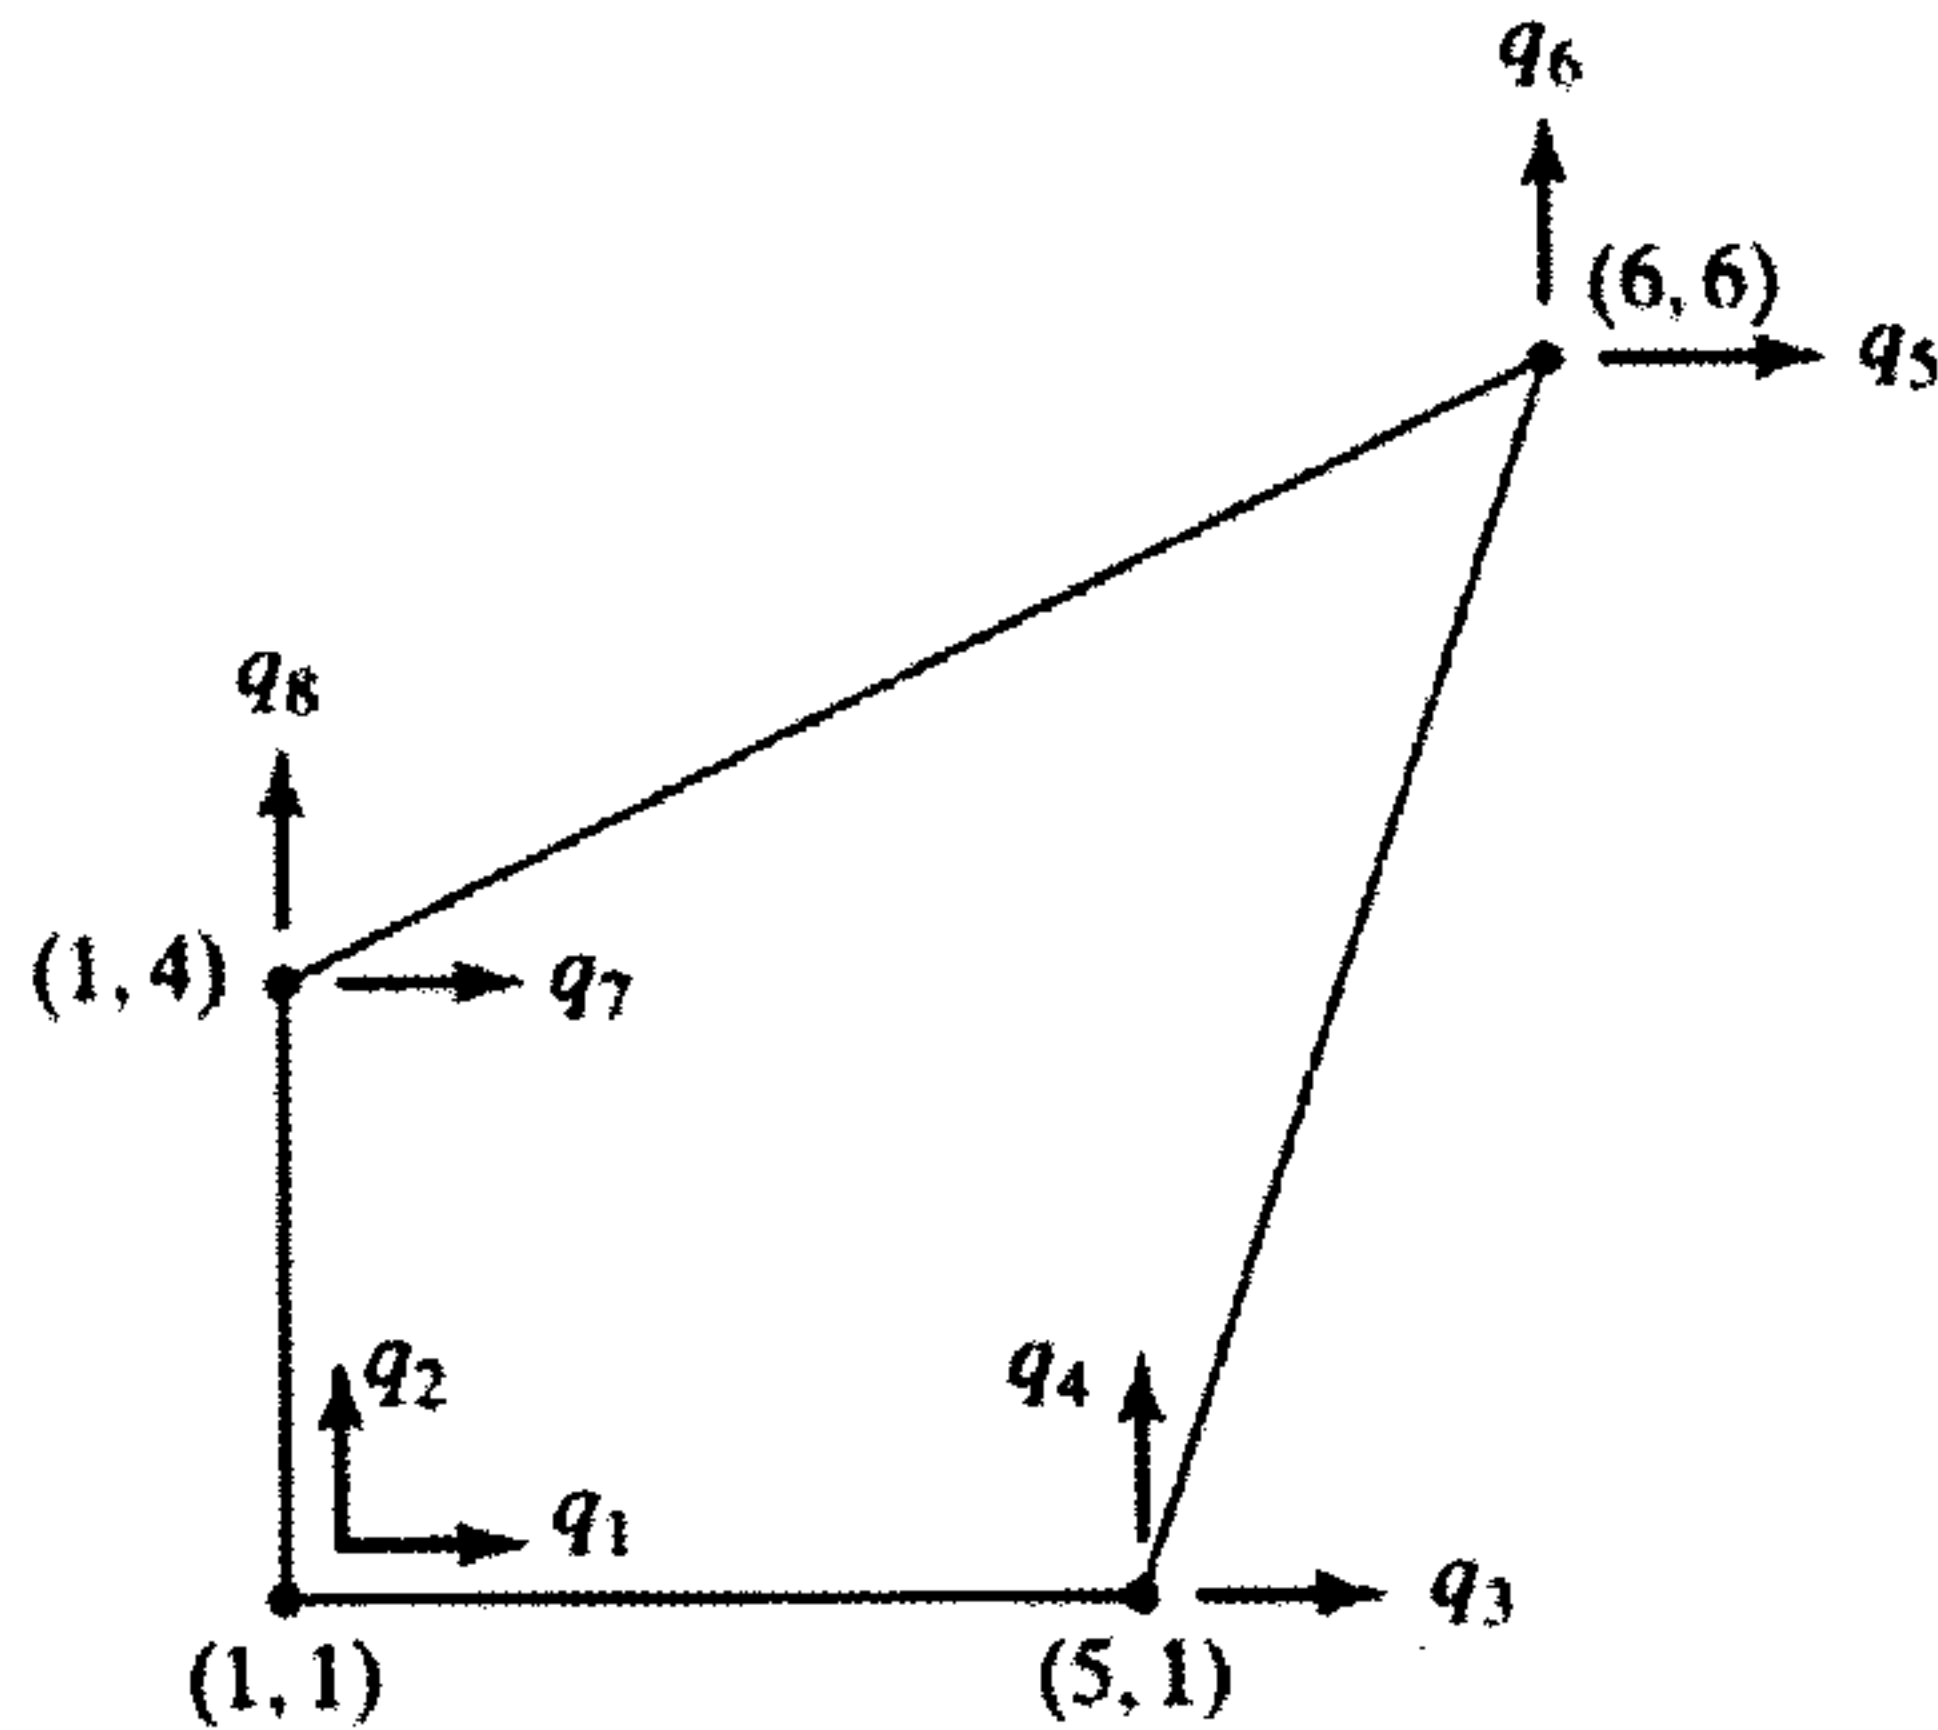

Figure-6
8. Figure-6 shows a four node quadrilateral. The (x,y) coordinates of each node are given in the figure. The element displacement vector  $q$  is given as